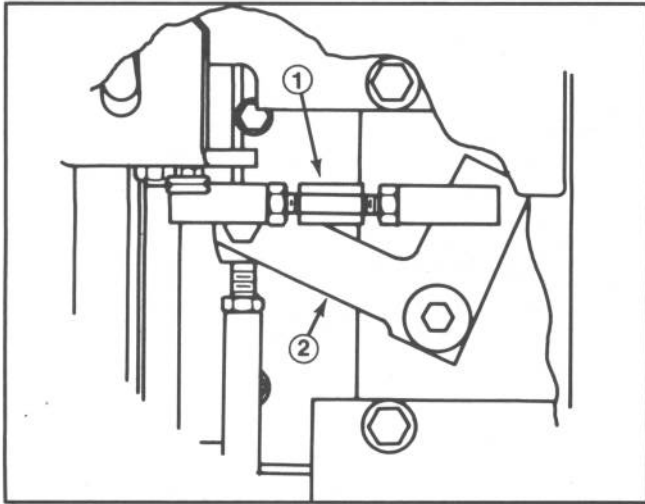

Figure 39
3. If lever is not centered, loosen jam nuts and rotate tie rod until lever is correctly positioned in neutral slot (Fig. 39). Tighten jam nuts.